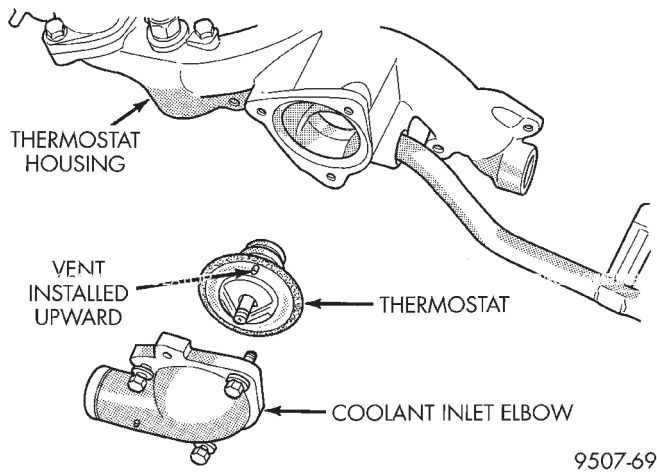

Fig. 30 Thermostat, Housing and Inlet Elbow
(1) Drain cooling system to the thermostat level or below.
(2) Remove inlet hose and bolts from coolant elbow. Remove elbow. (Fig. 30).
(3) Remove thermostat assembly, and clean sealing surfaces.
(1) Install thermostat into the recess in the thermostat housing. Install inlet elbow and tighten the bolts to 12 N·m (133 in. lbs.) (Fig. 30).
(2) Fill cooling system. Refer to Refilling System outlined in this section.